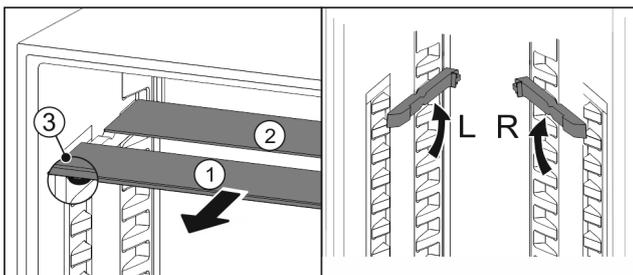

Fig. 34
- ▶ Pull the glass panels out Fig. 34 (1) from the front, one at a time.
- ▷ The glass panel Fig. 34 (1) with the trim strip is at the front.
- ▷ The stops Fig. 34 (3) point downward.